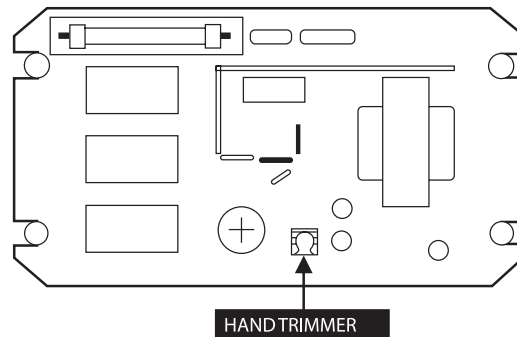

Figure 26: Hand Trimmer Location on AVR.
- a. If there is some voltage, but it does not build up to rated voltage, voltage adjustment can be made using the “hand trimmer” in the AVR (Figure 26).